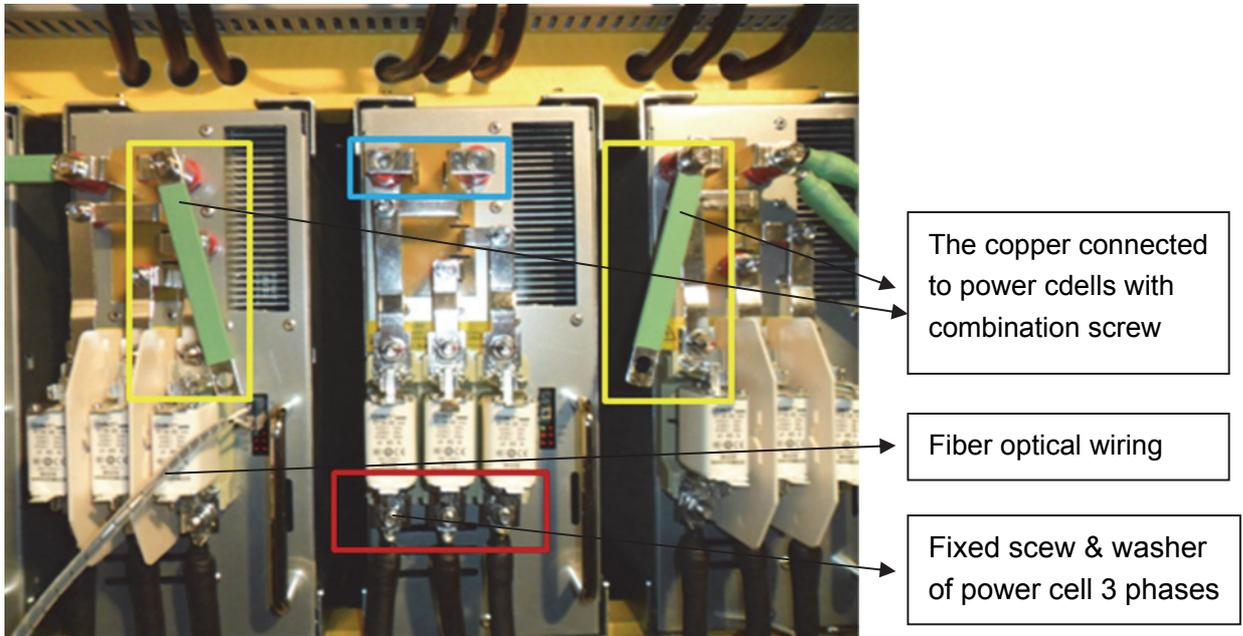

Fig. 10-15 Power cell replacement schematic diagram_1
- Unplug the fiber optical wiring. Use M13 torque sleeve wrench unscrew the combination screws of coppers in the two sides of power cells and fixed screw of power cell 3 phases input (Fig. 10-15). Save the screws carefully.